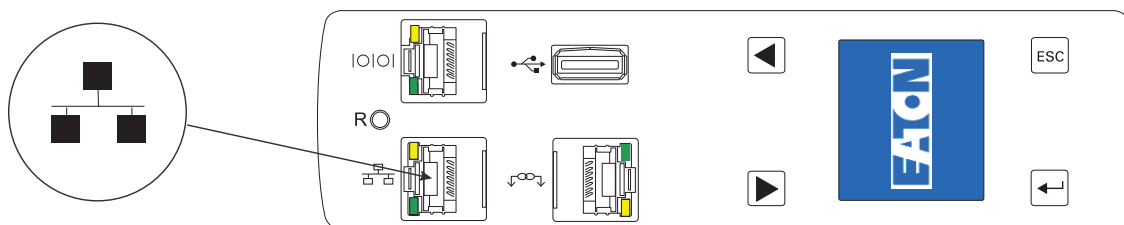

Figure 24. Connecting the ePDU to a LAN
2. Connect one end of the cable to the Ethernet connector on the ePDU (see Figure 24). Connect the other end of the cable to the Ethernet connector on the router (or other LAN device).